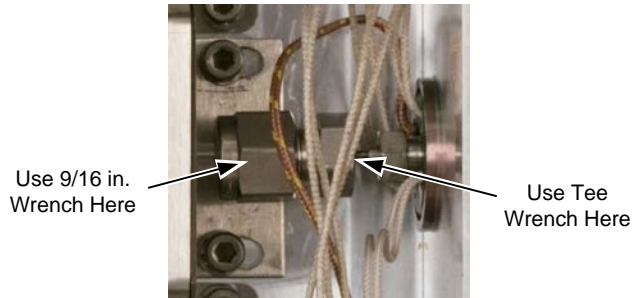

Fig. 5.6. Right-Side Carrier Connections
6. If this is the liquid version, remove the right-side carrier line as follows (see Figure 5.6):
2. Reconnect the right-side carrier lines to the furnace (see Figure 5.6) as follows, but do not tighten the connections: